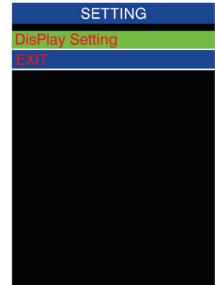

Figure 1
1. Access the settings menu by pressing and holding the [+] and [-] buttons on the control unit simultaneously until "SETTING" is displayed on the screen as shown in Figure 1.